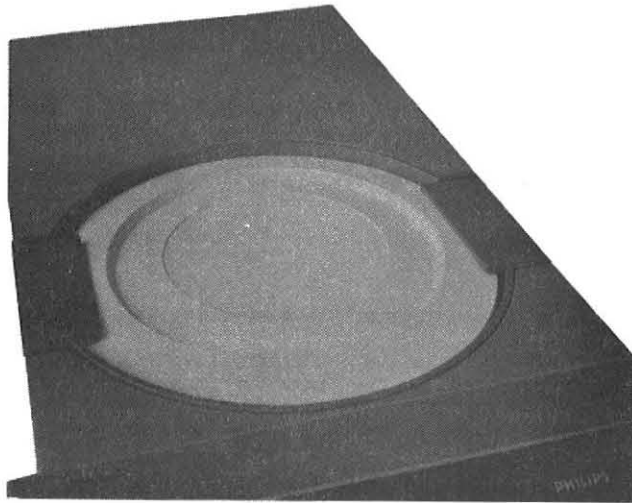

Fig. 2-5
2.3 UNLOADING (figure 2-5, 2-6 and 2-7)